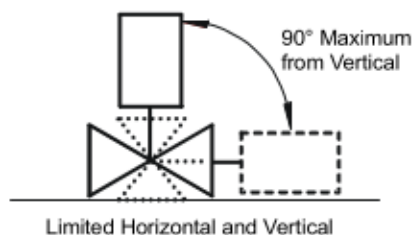

Figure 1: Mounting position
- The GH-5000 valve contains hydraulic fluid that the pump needs to operate the valve. Therefore, the valve may be mounted horizontally with the actuator pointed up (vertical) or in one plane in positions that do not exceed 90° from vertical. See Figure 1 and the valve position label.